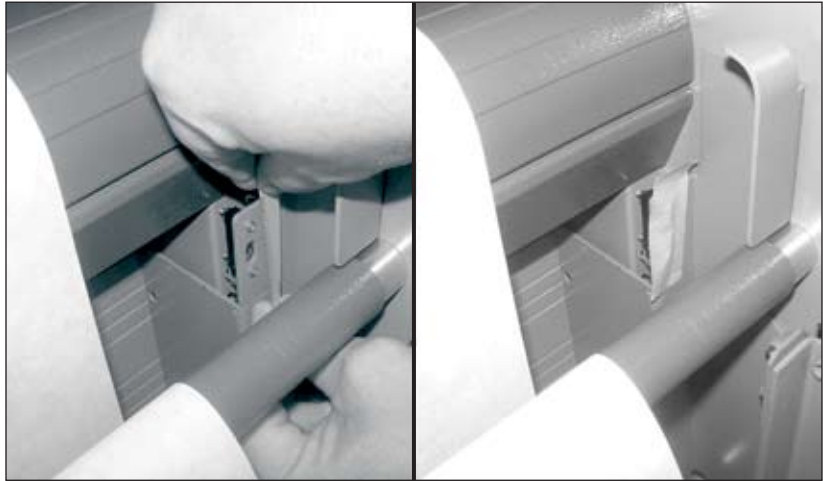

Figure 24. Before printing to the floor, place tape over the front take-up bar sensor.
1. With FlexJet power off, place a piece of tape over the front take-up bar sensor as shown in *Figure 24*.